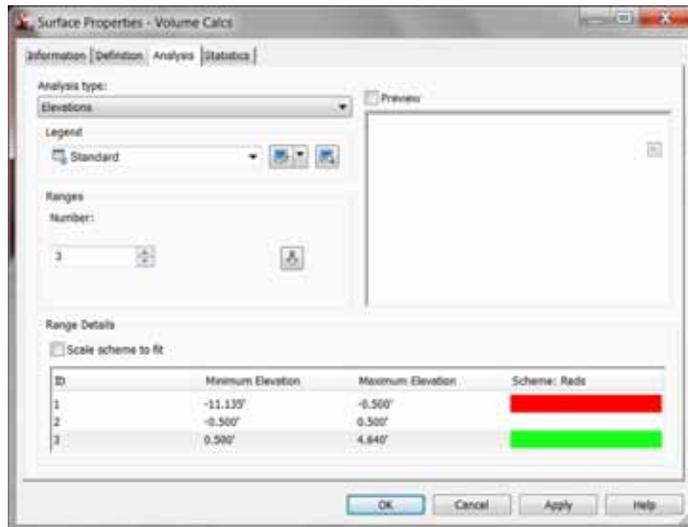

Figure 6: The Analysis tab of the Surface Properties dialog box is where we can finalize our ranges and color choices.
Step 1: In Prospector, right-click on the Volume Calcs surface and select Surface Properties. **Step 2:** Select the Analysis tab (see Figure 6).
Step 4: Set the elevations of the middle range to -.5 min. and .5 max. This range will represent virtually unchanged conditions. **Step 5:** Set the max value of the top range to -.5 to represent all cut elevations. **Step 6:** Set the min. value of the lower range to .5 to represent all fill elevations. **Step 7:** Finally, double click on the color samples at the end of the rows to define the colors of the shading. (Use Figure 6 as a guide.) Typically, I like to select colors from the True Color tab because these colors don’t conform to the plot style table. They will always appear the same on screen and on the finished plots. Click OK when finished.